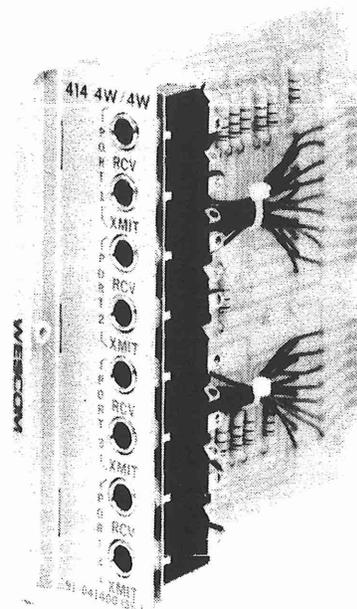

Figure 1. 414 4-Wire/4-Way Conference Bridge
1.01 This Practice provides circuit description, installation procedures, and basic testing information for the Wescom[®] 414 4-Wire/4-Way Conference Bridge (Figure 1).